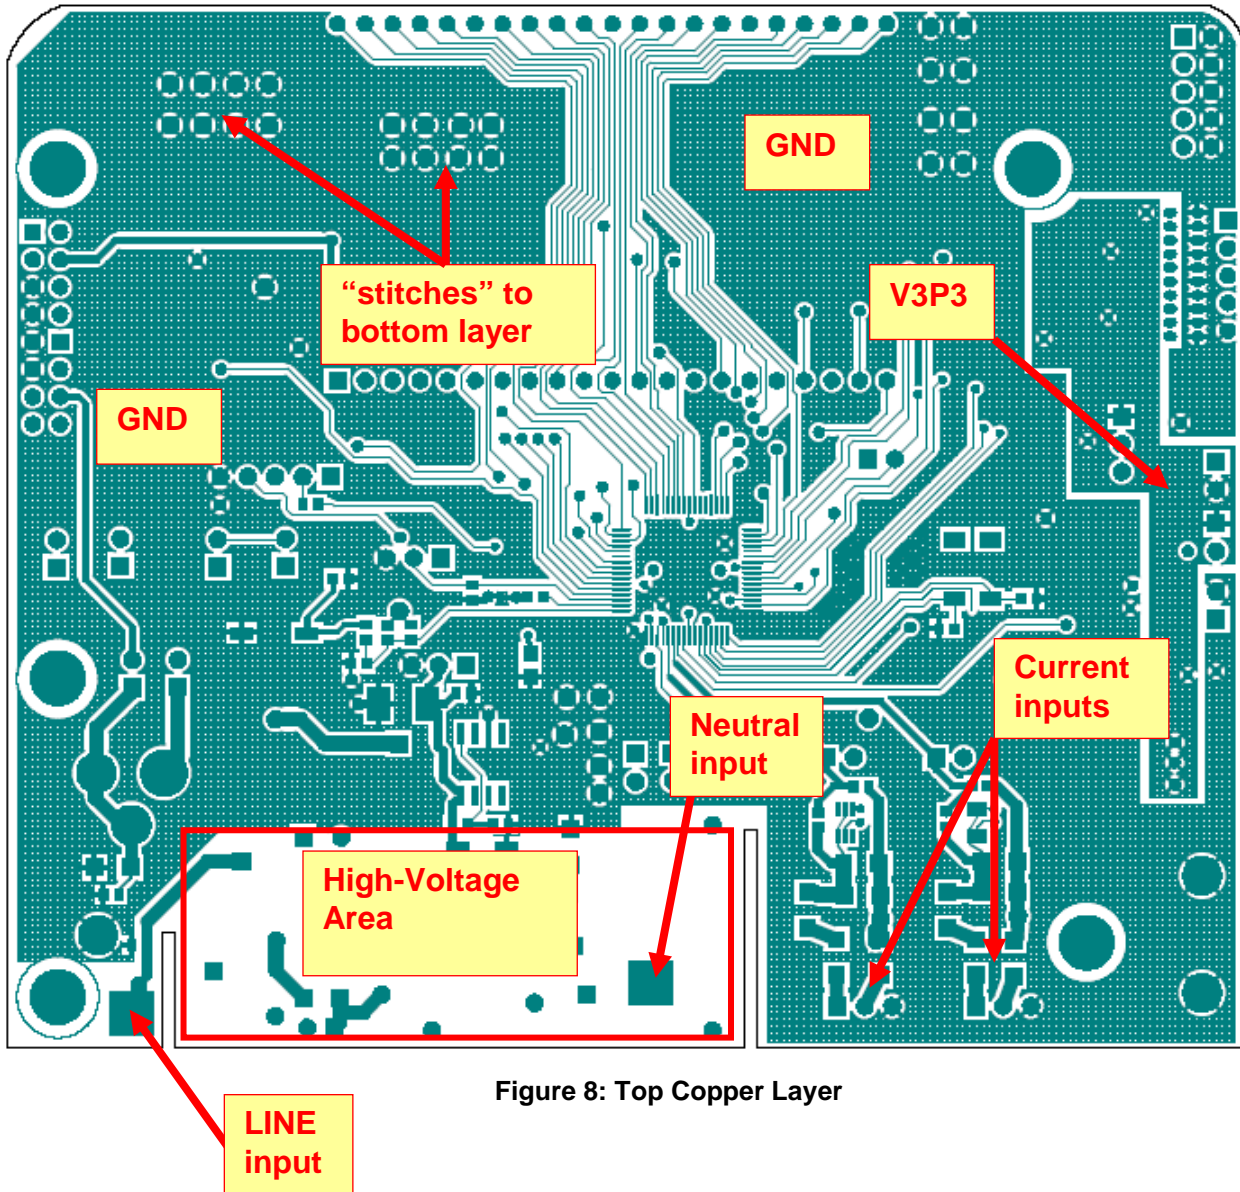
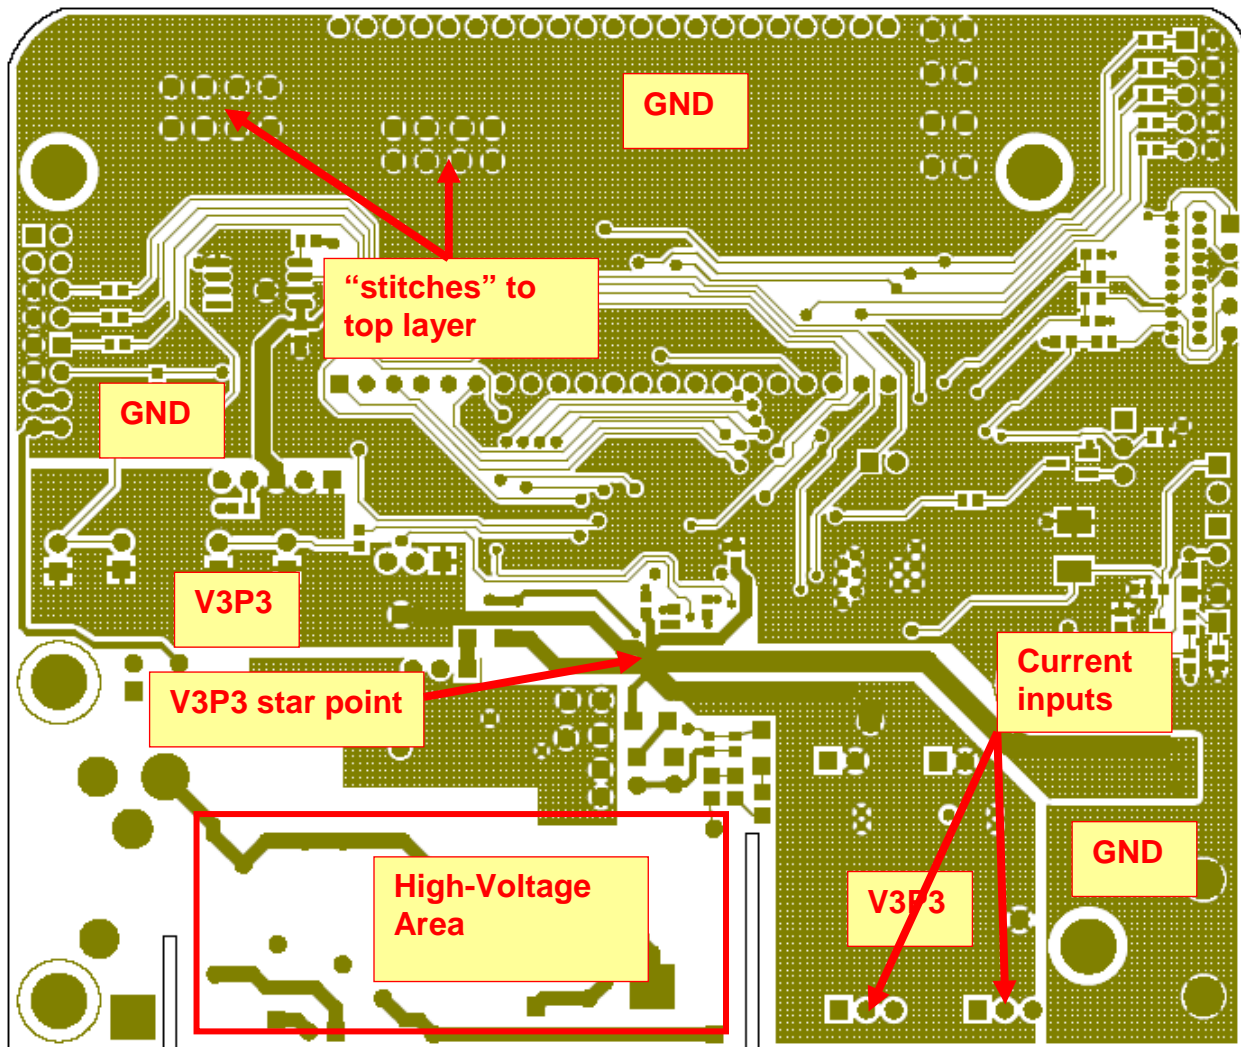

Figure 8: Top Copper Layer
Figure 9: Bottom Copper Layer
- For a good example of a two-layer board, examine the 6511 2-Layer Demo Board (see Figure 8 and Figure 9).
3. The V3P3A plane for measurement should be wide enough to act as a stable reference for the measurement signals. The wider the V3P3A copper structure is, the better the measurement performance of the meter will be. All V3P3 structures should come together at a star point close to the V3P3A pin of the IC (see Figure 9).
Figure 8 and Figure 9 show the top and bottom level copper of the PCB.